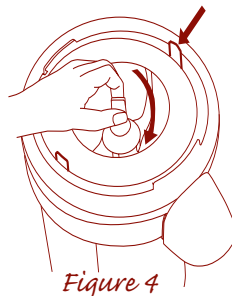
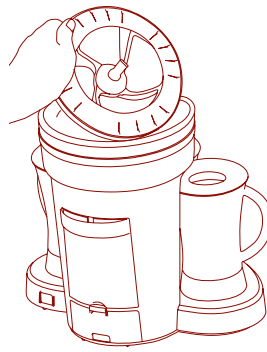

Figure 4
Figure 5
3. To remove the hopper cover, simply lift up at either cut out area in front of the ice hopper release catches. (Figure 4)
4. To remove the Shaving Paddle, unscrew the Shaving Paddle Thumb Screw counter-clockwise until loosened (**Do not separate from shaving paddle**), then remove the Shaving Paddle by lifting straight up (Figure 4), exposing the Ice Hopper and Shaving Blade. To reassemble, place the Shaving Paddle back into position, and screw down the Shaving Paddle Thumb Screw clockwise until tightened properly. (Figure 5).